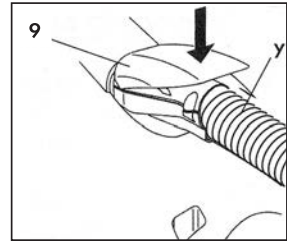
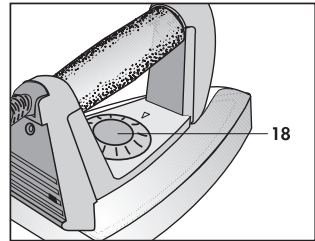

Fig. 18
Fig. 19
- Flick the accessory socket door (9) wide open and fit the quick connection of the iron (y) to the socket on the front of the appliance. Press the connection in as far as it will go.
- Close the accessory socket door (9) so that it rests on the body of the quick connection and check that the two elements are properly engaged. Fig. 18.
- Switch on the machine at the main switch (4) and push the boiler heating button (5). As soon as the green control lamp (ready for operation) (7) is on, you can work with the iron.
- Turn the steam handwheel (6) on the appliance anticlockwise to adjust the steam volume to the min. position.
- Adjust the iron temperature to the fabric to be ironed using the temperature knob (18). Fig. 19
- Push the steam on/off button (19) on the handle of the iron to activate or deactivate the steam function. Fig. 19 bis.
Fig. 19 bis